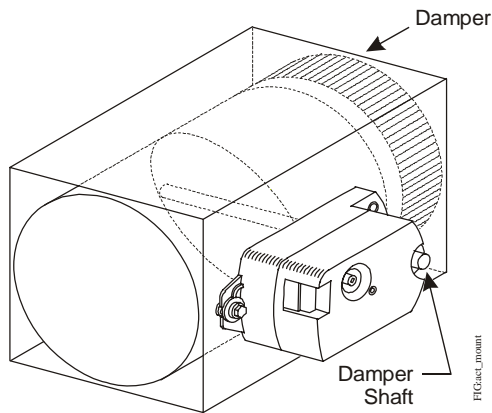

Figure 4: Mounting the Actuator onto the Damper Shaft
4. Make a note of the rotation range and direction, either Clockwise (CW) or Counterclockwise (CCW), required to close the damper.
- Position the actuator onto the damper shaft so that the damper shaft protrudes through the actuator coupler, as illustrated in Figure 4.